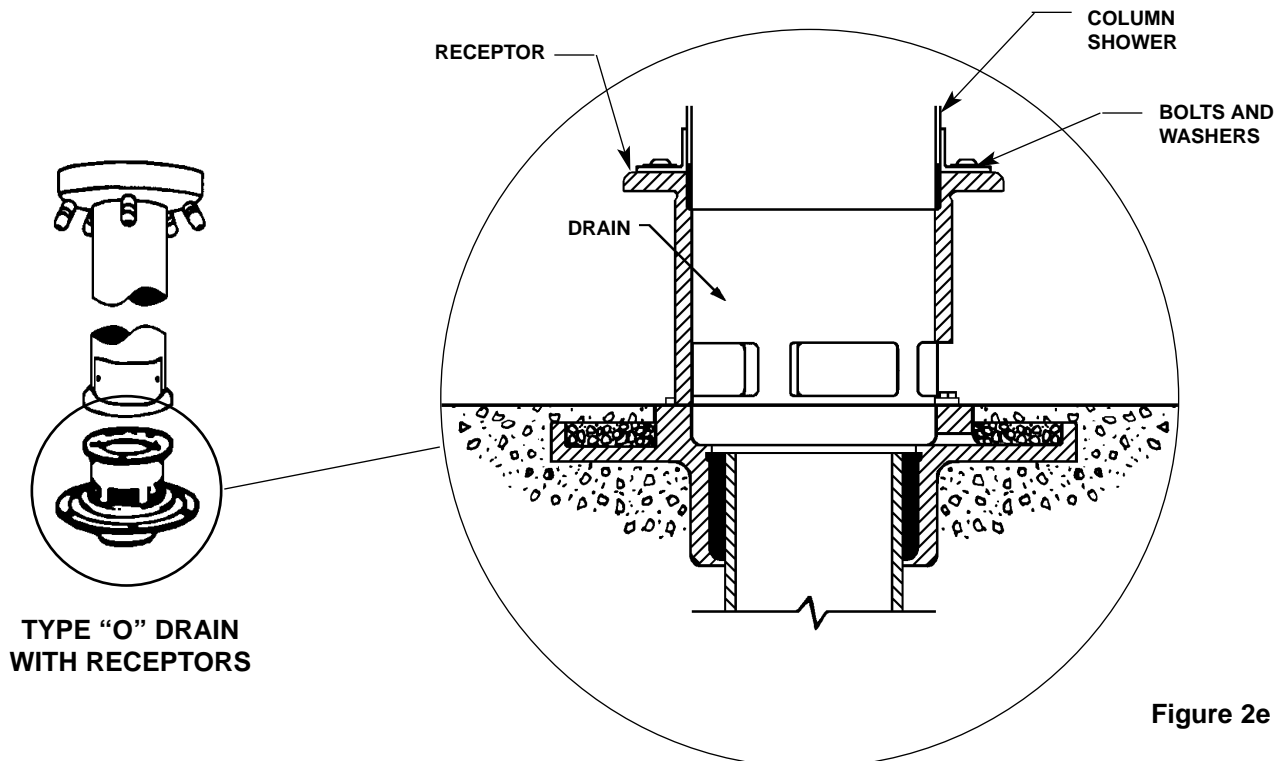

Figure 2e
2. Bolt the shower to the drain with the five bolts (removed in procedure #1) and oval washers provided (see Figure 2e).